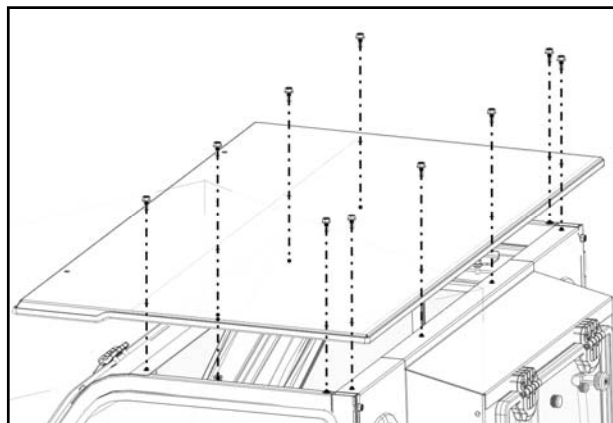

Fig. 9.1 (Roof Installation)
**9.1** With assistance, lift the roof onto the side frames. See Figure 9.1.